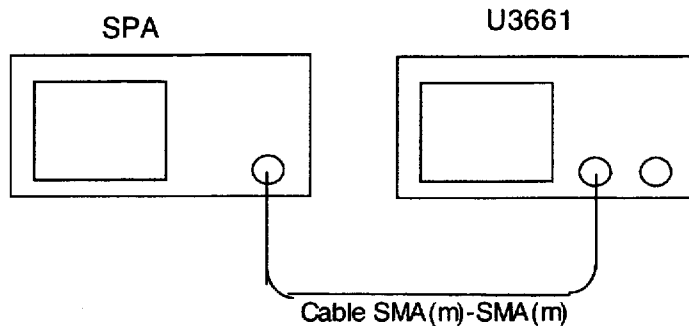

Figure 3-25 Setup of Non-Harmonic Distortion Test
1. Connect equipment as shown in Figure 3-25.